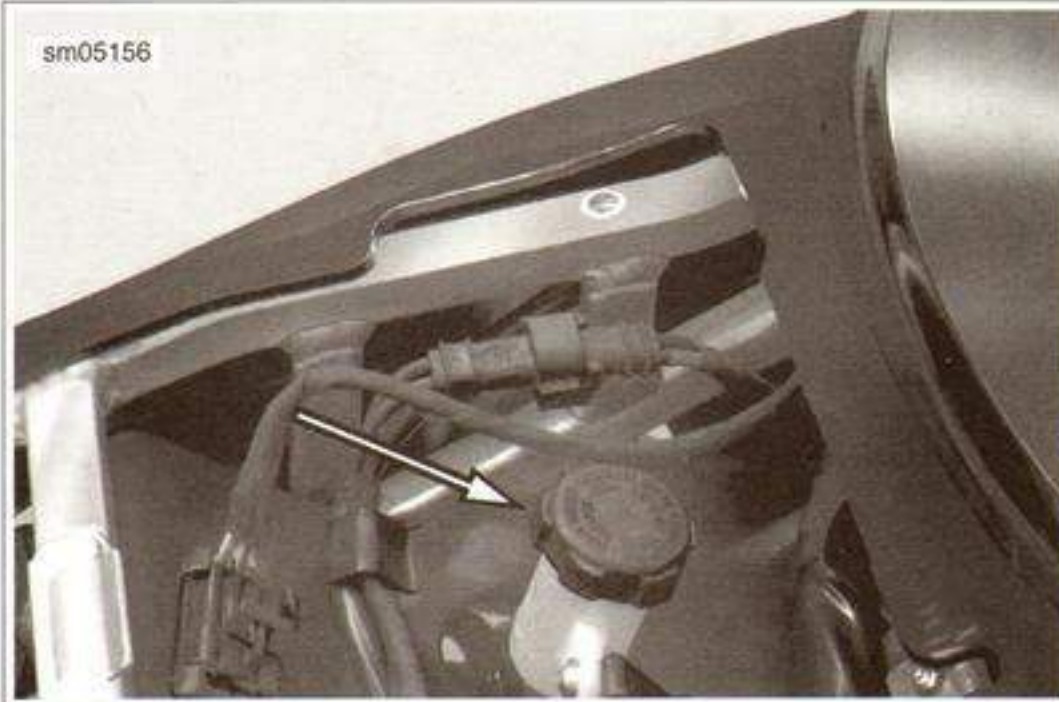

Figure 1-36. Rear Master Cylinder Reservoir
1. See Figure 1-36. Remove rear master cylinder reservoir cover.